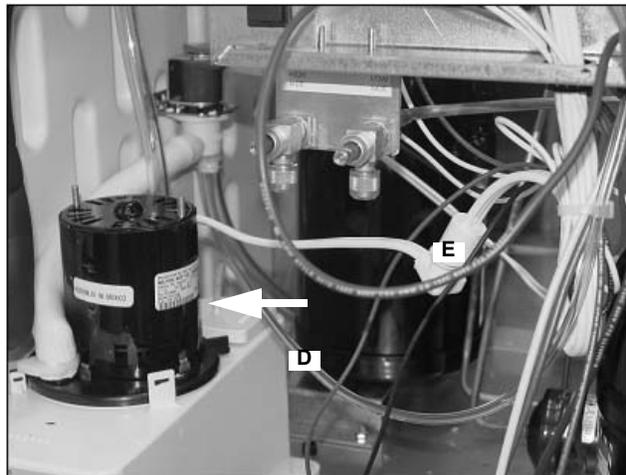

Figure 48.
60. Connect the pressure transducer tube (D) to the water pan.
Connect the water pump motor harness (E) (Figure 48).